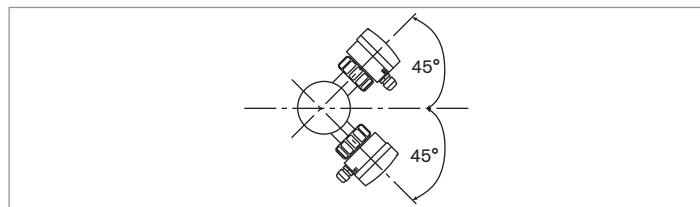

Fig. 8 : Mounting angle of the transmitter in the pipe
- it is preferable to install the sensor at an angle of 45° to a horizontal centred on the pipe to prevent deposits on the electrodes and measurement errors due to any air bubbles (see Fig. 8) ;